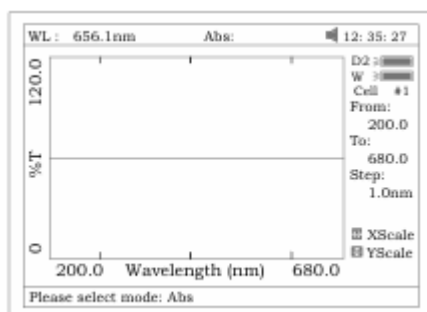

Fig.42
1. Press **【F1】** to setup, input the start wavelength, and end wavelength by pressing the numeric keypad (Fig 42). Note: This instrument scans from high to low wavelength. Browse and select the items of scan step and scanspeed by pressing **【^】** or **【v】** .